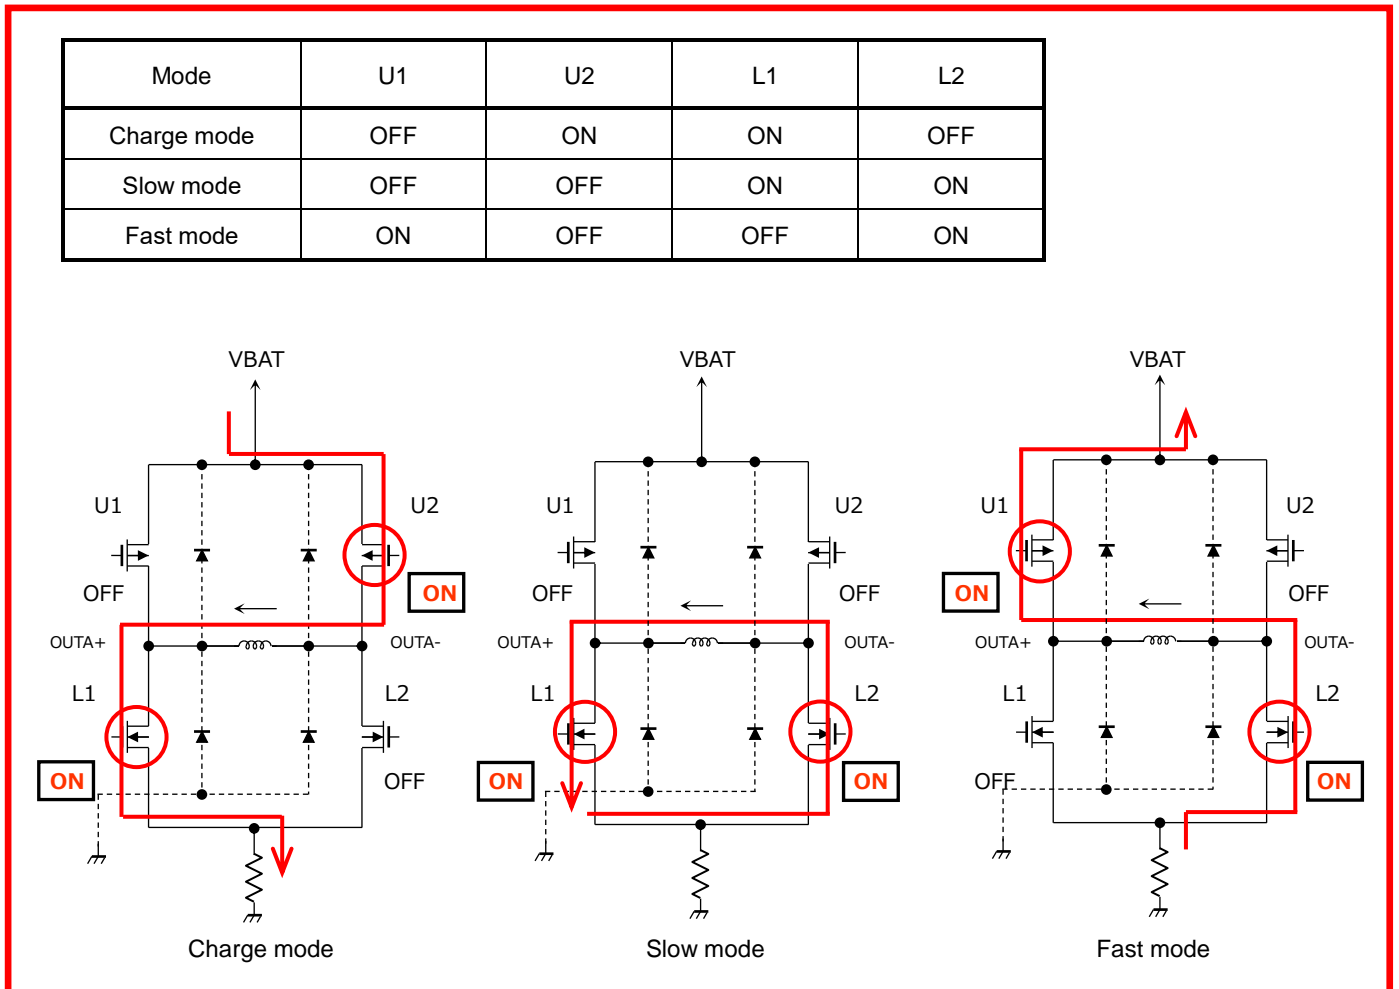

Figure 4. Operation showing charge  $\rightarrow$  slow  $\rightarrow$  fast modes with a current direction of  $OUTA- \rightarrow OUTA+$
- When the current direction is  $OUTA- \rightarrow OUTA+$ , operation is as shown in Figure 4.